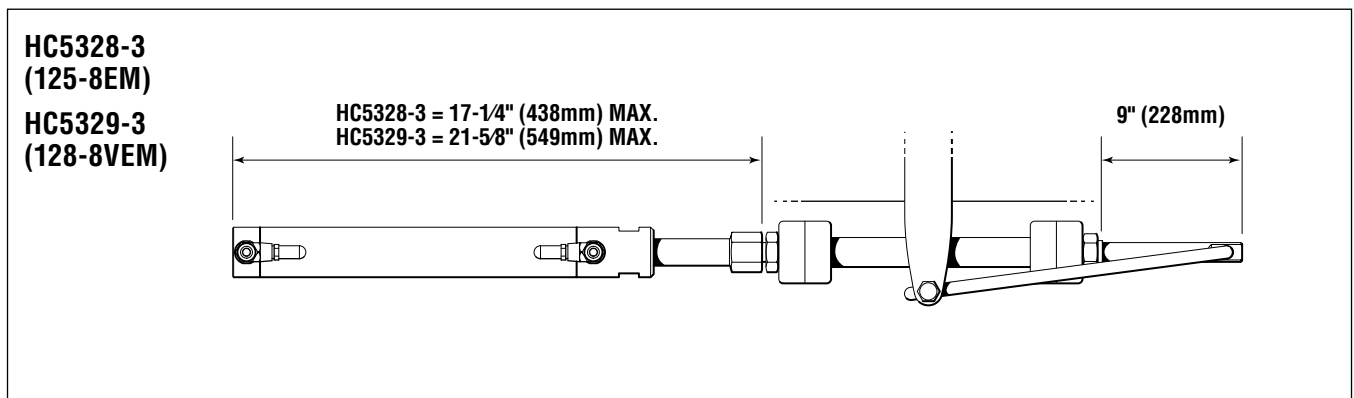
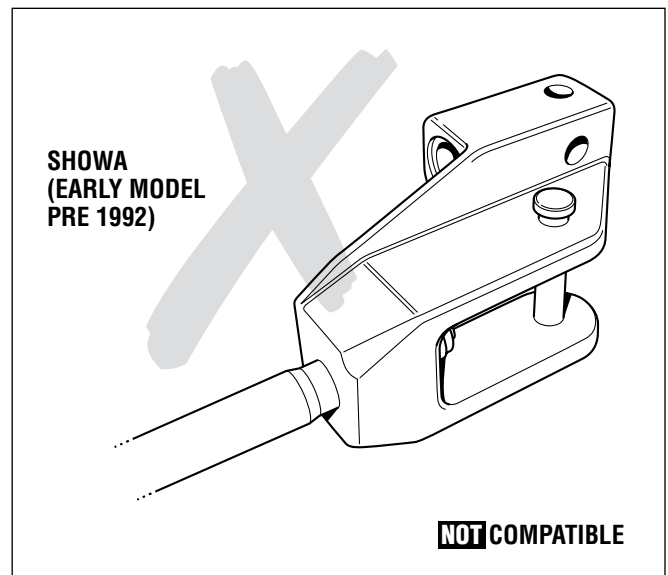

Figure 10. HC5328-3 (125-8EM) and HC5329-3 (128-8VEM), **NOT for use with SeaStar PRO helm(s).**
Figure 15.
*The Teleflex HC5331-3 steering cylinder is NOT compatible with some early model power steering rams. Although the cylinder will still mount to these rams, loss of articulation and possible damage to the steering ram may result. Please identify your power steering cylinder by comparing your clevis bracket to the 4 drawings shown below. The HC5331-3 IS compatible with units identified by figures 10 to 12, it is NOT compatible with the clevis bracket shown in figure 15.*